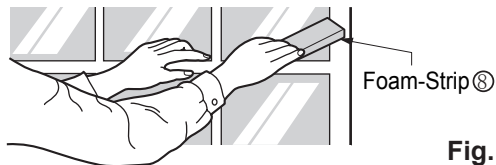

Fig. 8
11. Cut the Foam-Strip ⑧ to the proper length (window width) and wedge between the upper window sash and the lower window sash. (Fig. 8)